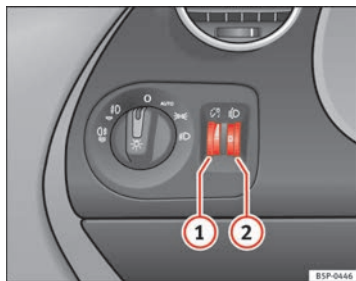

Fig. 75 Dash panel: regulation for instrument and switch illumination and headlight range control
When the headlights are switched on, the brightness of the instruments and switch lighting can be regulated to suit your requirements by turning the thumb wheel ⇒ fig. 75 ①.